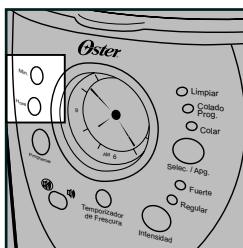

Figure 1
2. Press and hold the hour (HORA) and minute (MIN.) buttons until you reach the current time. The AM or PM indicator will light at the bottom of the display (Figures 1 and 2).